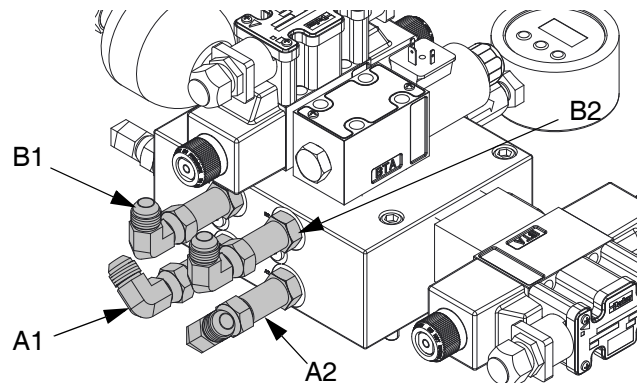

FIG. 26: L-Head Applicator Hydraulic Housing
7. Connect all hydraulic lines to applicator housing. See FIG. 26 on page 29.